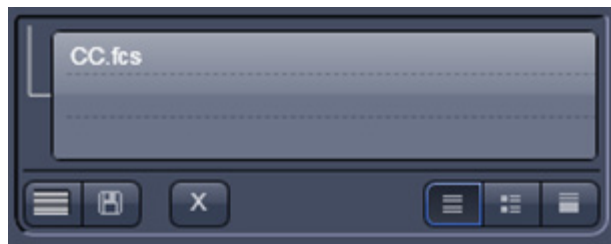

Fig. 371 Open images column
(1) Save and Save as
- **Save** will save the data in .fcs format and will overwrite an older version. This function is also available in the **Images and Documents** column (Fig. 371) by pressing the **disc** button.